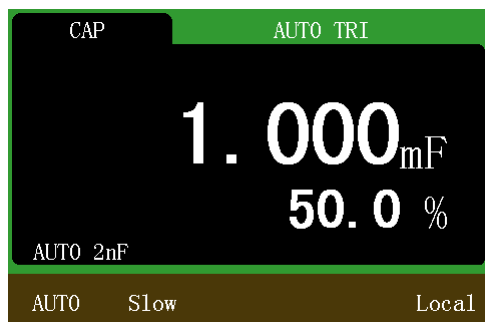

Figure 4-23 Measurement interface
1. Press  to select the capacitance measurement function. The measurement interface is shown in Figure 4-23.